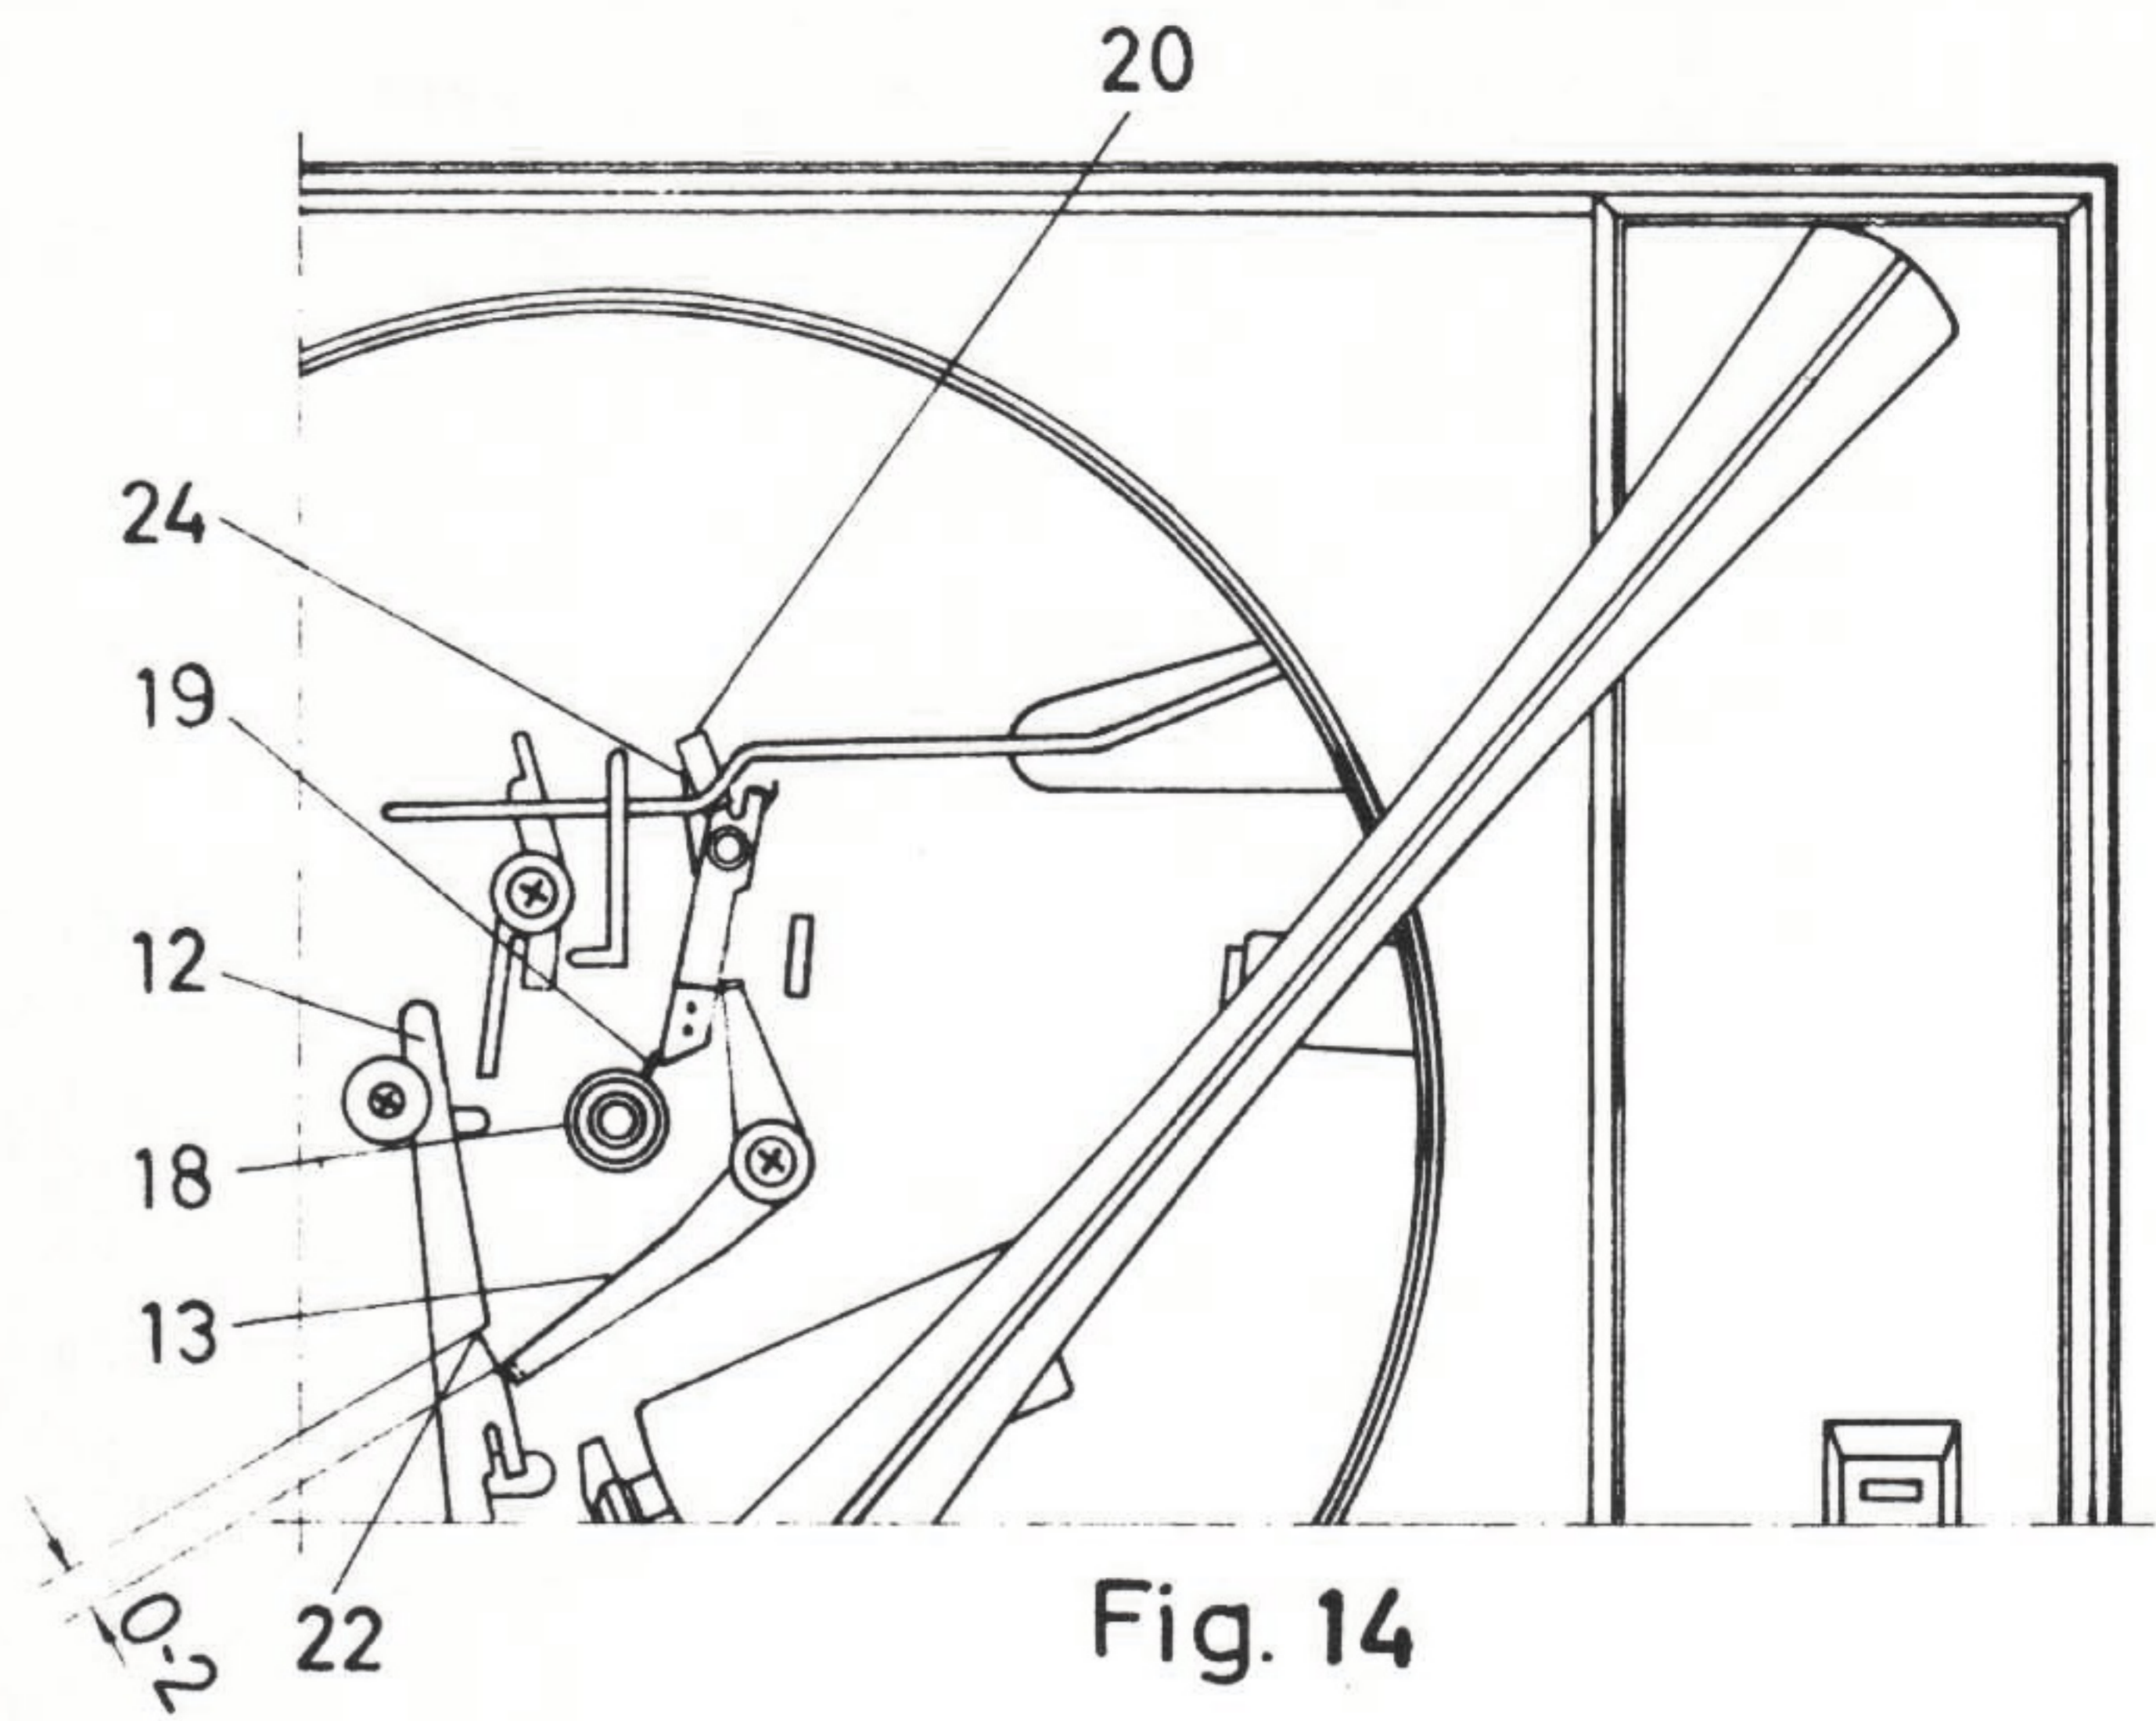

Fig. 14
KONTROLL AV FUNKTIONER VID AUTOMATISKT STOPP. FIG 14.
FÖR IN TONARMEN ETT STYCKE, SÅ ATT ANSLAGSARMEN (20) RÖR SIG, OCH ANVÄND ETT SKIVTALLRIKSCENTRUM (18) PÅ SKIVTALLRIKSAXELN VID KONTROLLEN. VRID DETTA SÅ ATT STOPPTRÅDEN (19) FATTAR TAG I ANSLAGSARMEN (20) OCH DENNA I SIN TUR PÅVERKAR STOPPARMEN (13) SÅ ATT DESS ENA SKÄNKEL GÅR IN MOT URTAGET (22) I START- OCH STOPPARMEN (12), DÄR AVSTÅNDET ENLIGT FIG 14 SKALL VARA 0 - 2 MM.
VREDET (8), FIG 7, STÄLLES I LÄGE 33. EN 45-VARVSSKIVA LÄGGS PÅ FÖR AVSPELNING. DÅ AUTOMATISKA STOPPET VERKAT KONTROLLERA ATT SKIVTALLRIKEN EFTER DETTA GÅR RUNT SÅ LÅNGT ATT ETT "KLICKANDE" LJUD HÖRS, NÄR ANSLAGSARMEN (20), FIG 14, SLÅR EMOT SITT STOPP.